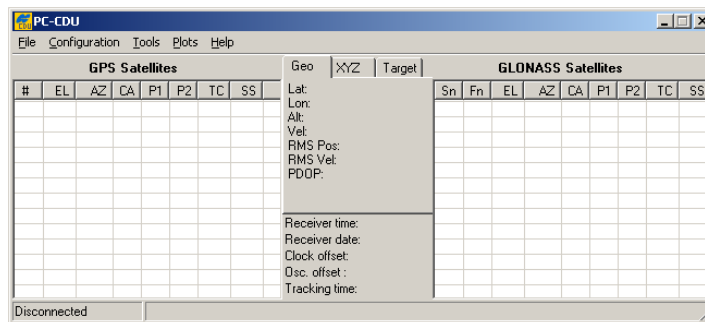

Figure 2-7. PC-CDU Main Screen
1. Once the receiver and a computer are connected, start PC-CDU on your computer. The PC-CDU main screen displays (Figure 2-7).